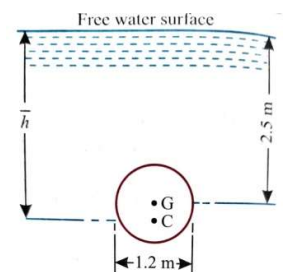

Fig. 3.7
6. Fig. 3.7 shows a circular plate of diameter 1.2 m placed vertically in water in such a way that the centre of the plate is 2.5 m below the free surface of water. Determine: (i) Total pressure on the plate. (ii) Position of centre of pressure.